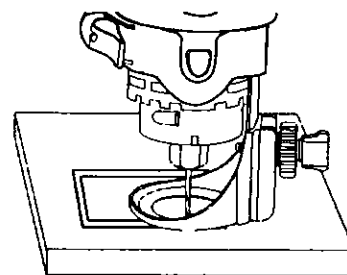

Fig. 7
8. When the motor is up to full speed, slowly tip the tool to an upright position, letting the bit cut into the workpiece (see Fig 7). Once the tool has reached the upright position and the bit has cut through the workpiece, slowly move the tool in a **clockwise** direction using slow steady pressure to make the cut. NOTE: Except for cutting around outlet boxes in drywall, always cut in a **clockwise** direction